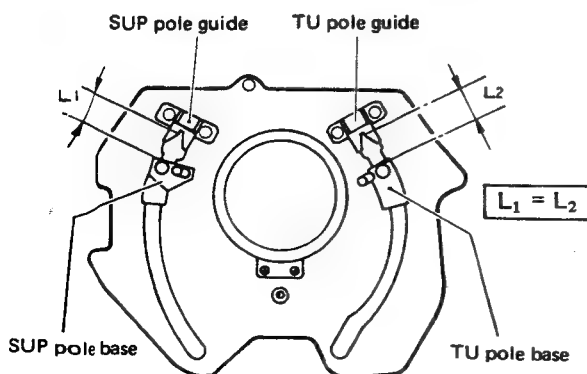

Fig. 2-20 Loading ring check ($L_1 = L_2$)
8. Turn the motor by hand to shift the loading rings slightly in the unloading direction. Confirm that the pole bases of the supply and take-up sides are evenly spaced (Fig. 2-20).